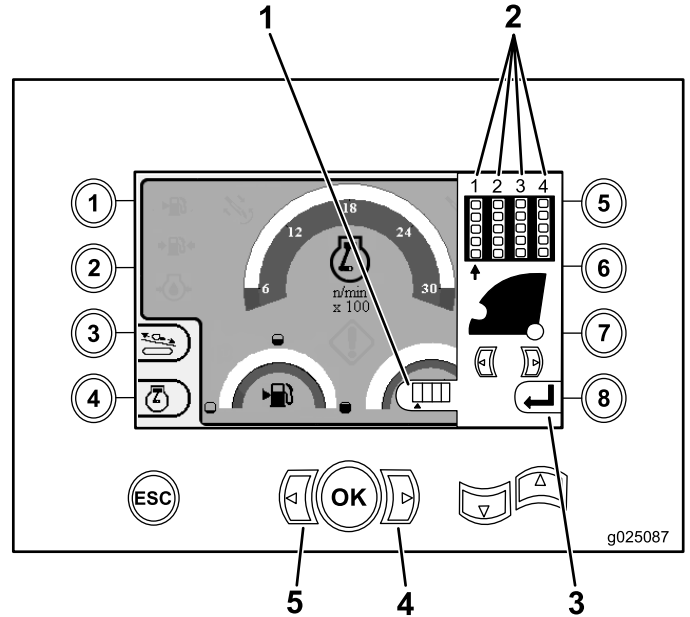

Figure 21
1. Press the right or left arrow to select the row number to the row you want to access (Figure 21).
2. After placing the arrow beneath the row number you want to access, press the OK button (Figure 21), and return to the Main Operating Screen \(page 26\).